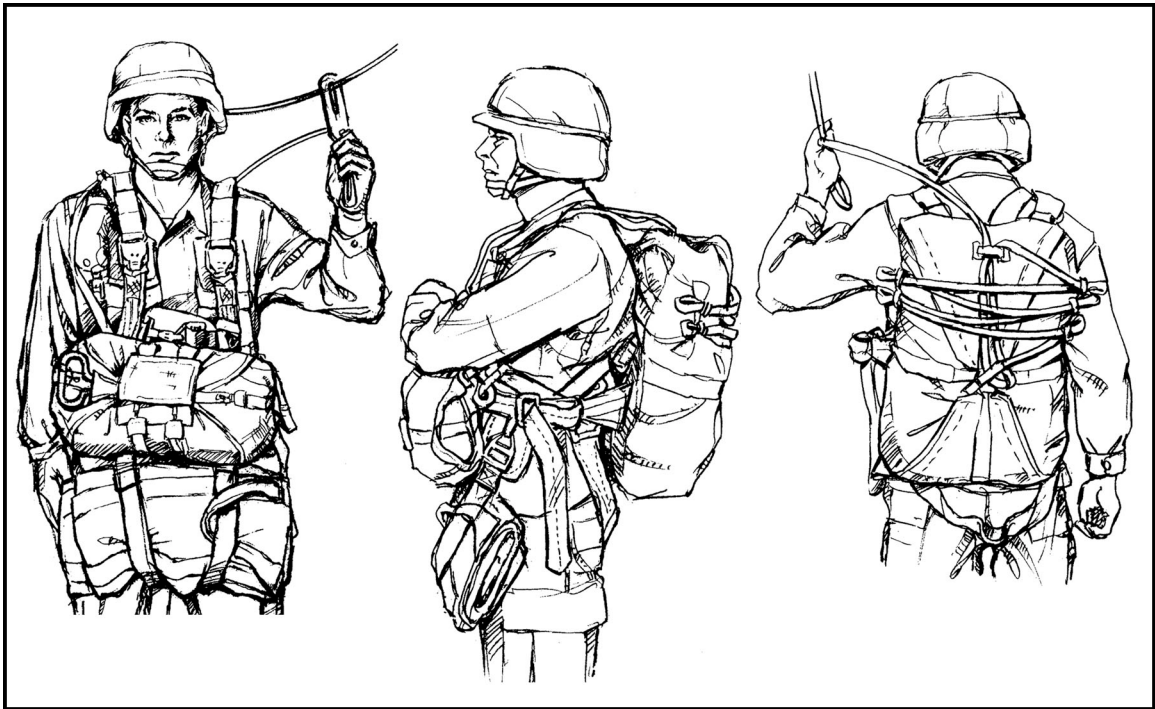

Figure 2-6. Troop parachute harness fitted.
- (1) Activates the waistband quick-release and pulls up each of the activating levers on the ejector snaps, releasing the leg straps and the chest strap.
- (2) Checks for appropriate size and, if necessary--
- (3) Lifts the pull-the-dot fasteners on the diagonal back-strap retainer and frees the diagonal back straps from the sizing channel.
- (4) Sizes the parachute to one of the six sizing channels (S, 1, 2, 3, 4, and L).
- (5) Rechannels the diagonal back strap retainer and fastens the pull-the-dot fastener.
- (6) Lets out about half of the slack in the horizontal back strap, leg straps, and chest strap; straightens the leg straps and chest strap; and folds the kit bag, leaving the outermost carrying handle extended.
STEP 6: Number 2 locates the free-running ends of the horizontal back strap and tightens the harness until number 1 indicates it fits snugly and comfortably. The horizontal back strap is the main point of adjustment for the harness. After final adjustment, number 1 should be able to stand fully erect without straining (Figure 2-6).